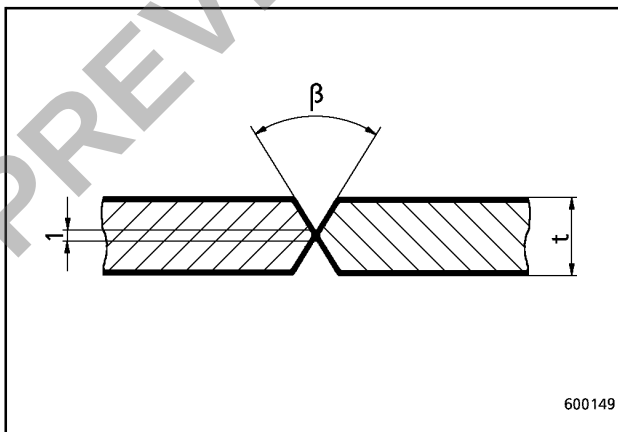

Fig. 40
- Double-V butt weld (fig. 40)